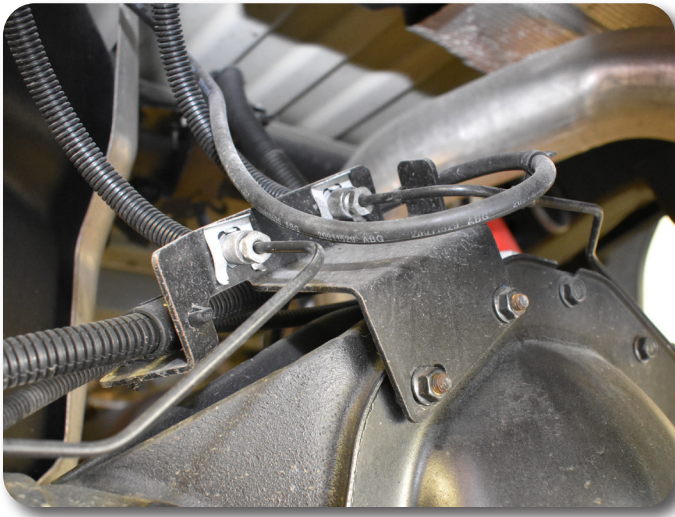

Figure 52
5. Disconnect the two nuts attaching the brake lines to the rear differential housing. Save hardware, it will be reinstalled later. Figure 52